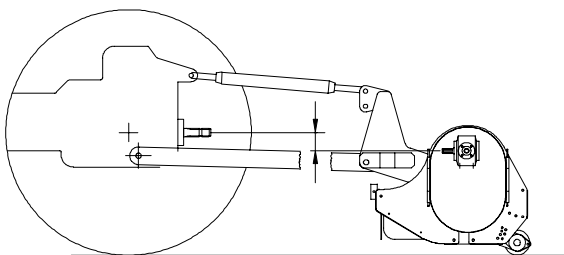

Figure 11
2. Adjust tractor top link until shredder gearbox input shaft is parallel with tractor input shaft (figure 11).